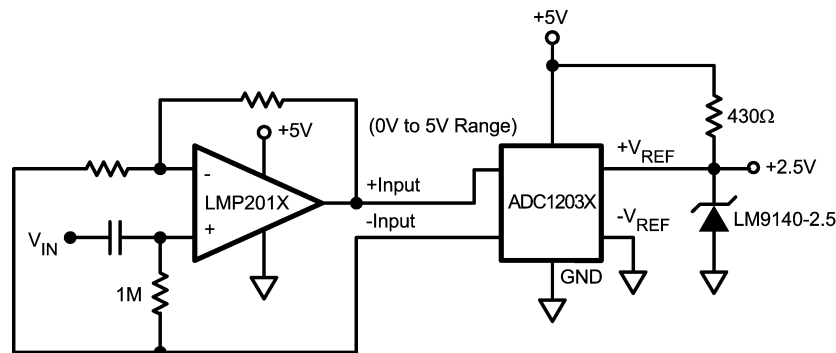

FIGURE 7.
The LMP2014 is a great choice for an amplifier stage immediately before the input of an ADC (Analog-to-Digital Converter), whether AC or DC coupled. See *Figure 7* and *Figure 8*. This is because of the following important characteristics:
- E) Rail-to-Rail output swing maximizes the ADC dynamic range in 5-Volt single-supply converter applications. Below are some typical block diagrams showing the LMP2014 used as an ADC amplifier (*Figure 7* and *Figure 8*).